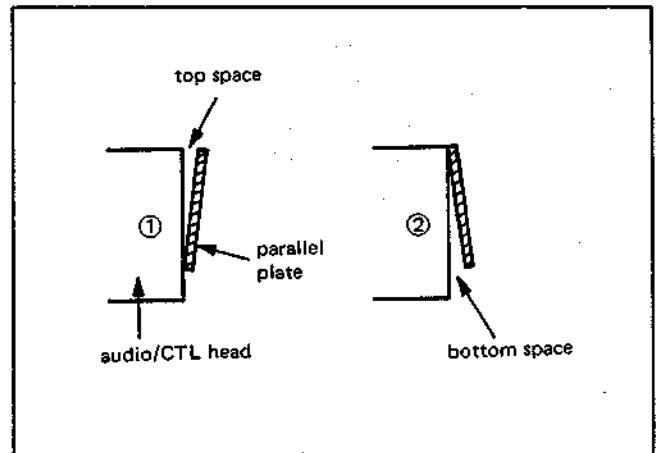
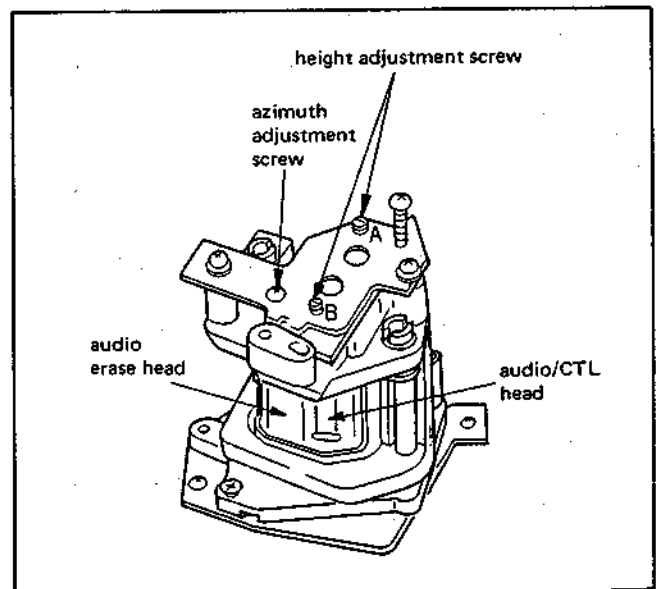

Fig. 2-26
Fig. 2-27
- 2) With No. 5 guide as reference, confirm that there is no space between the audio/CTL head and the parallel plate. If there is space at the top (Fig. 2-26 ①), adjust by turning the height adjustment screw Ⓐ counterclockwise. (Fig. 2-27)
If there is space at the bottom (Fig. 2-26 ②), adjust by turning the height adjustment screw Ⓐ clockwise.